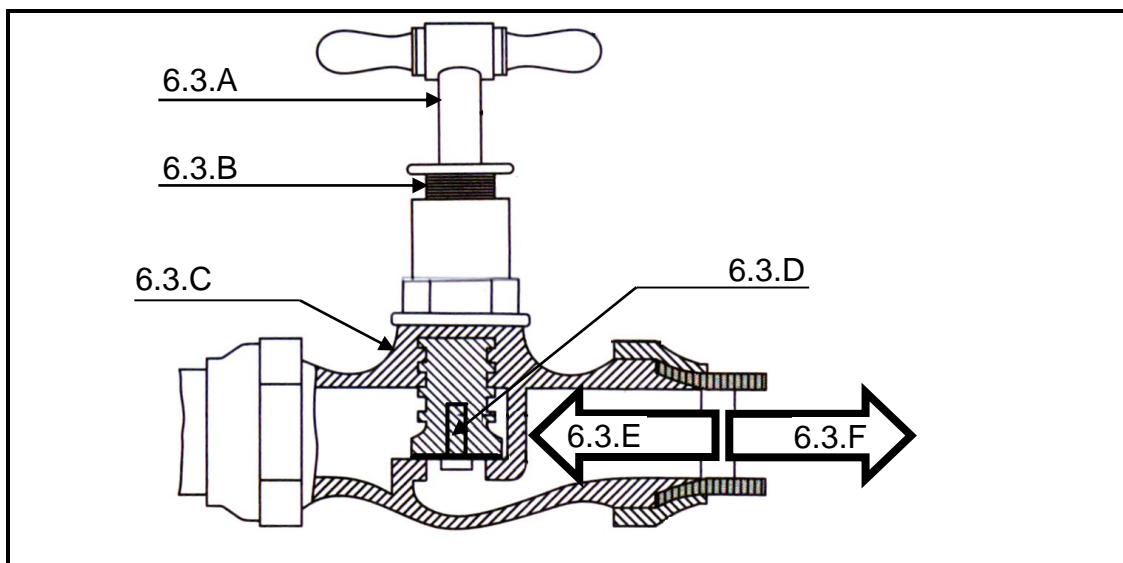

FIGURE 6.3
- 6.3 Answer the following questions with regard to the tap in FIGURE 6.3.